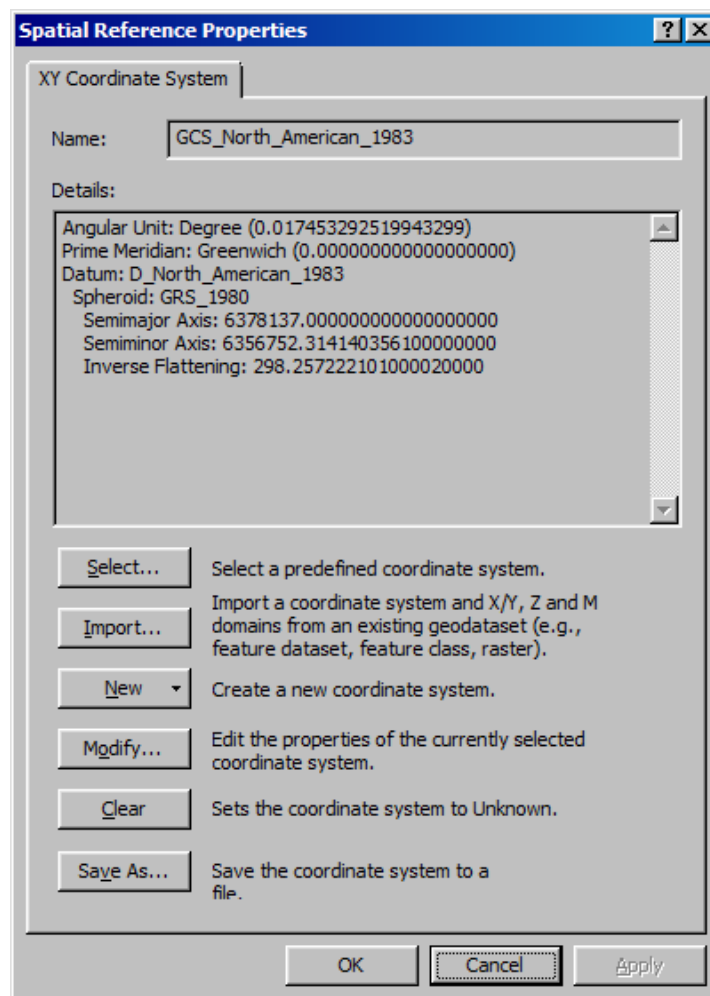

Figure 2 – Defining ARI Grid Spatial Reference Properties
2. Open ArcCatalog and define the spatial reference information for each grid. The metadata file previously downloaded will include all the data you need to do this. This information should be the same for every grid. Once you have created the projection file for your initial grid, you can import this definition into all others. Figure 2 below shows the definition that worked for the southwest region. This definition may or may not be the same for other regions.